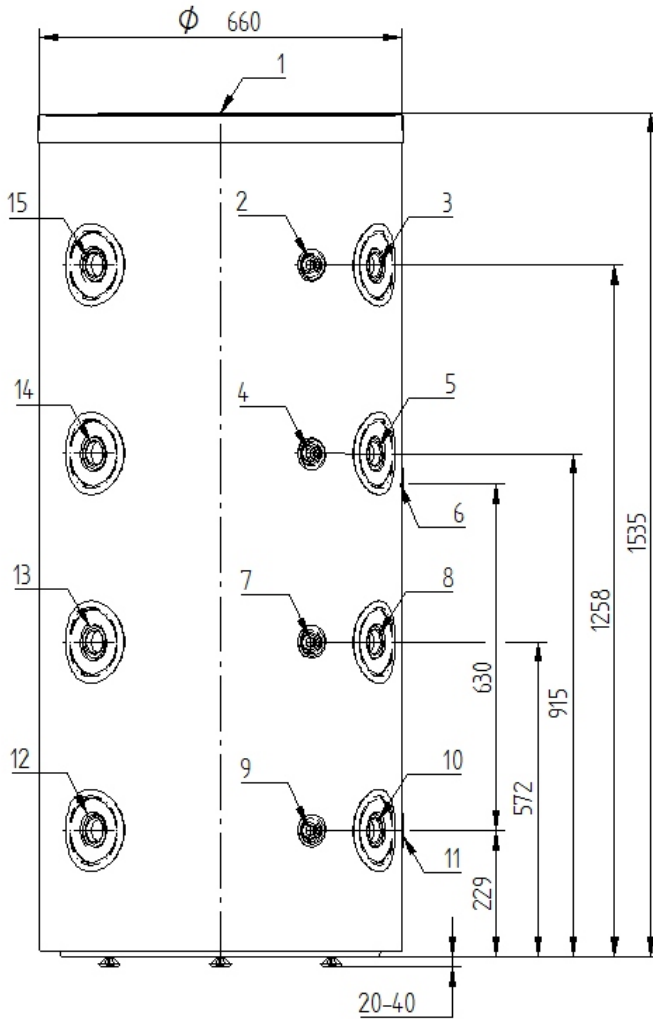

Figure 1
Buffer tanks are sold in standing forms, with volumes of 300, 500, 750 and 1000 litres, in "empty" (PT) , "pipe coil" (PT_C) and "combined" (PT_CF) layouts. "Empty" buffer tanks (PT types) contain 9 pipe branches for connection of heat producing units and heat expenditure units and they contain 1/2" sensor pipe branches. Buffer tanks with pipe coil (PT_C types) contain a heat exchanger for direct connection of solar systems or systems with heat pump. In addition to features described above, combined tanks (PT...CF types) contain a flexible pipe of stainless steel to produce sanitary hot water. The most important external and connection sizes of the appliances are described in Table 1 and in Figures 1 and 2 below.